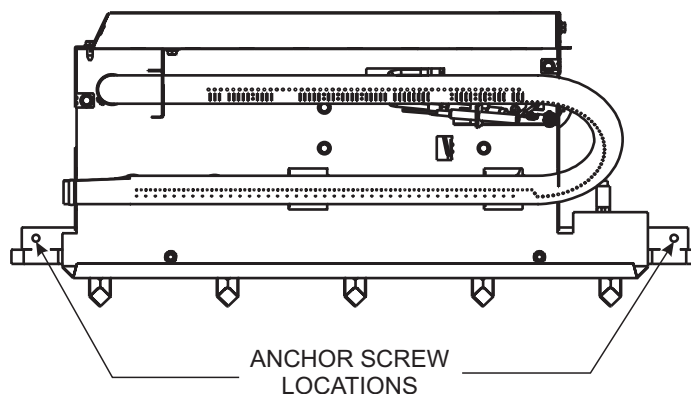

Figure 9
Assembly Procedure: (Figure 9)
2. An anchor hole is provided in the two bottom side members of the grate frame. After centering the grate correctly, mark the hole positions on the fireplace/firebox floor. Drill two (2) 5/32" diameter holes approximately 1-1/2" deep for masonry screws or 1/8" hole for sheet metal screws.
3. Anchor the grate to the fireplace/firebox floor using the screws provided. **Refer to Figure 9.**